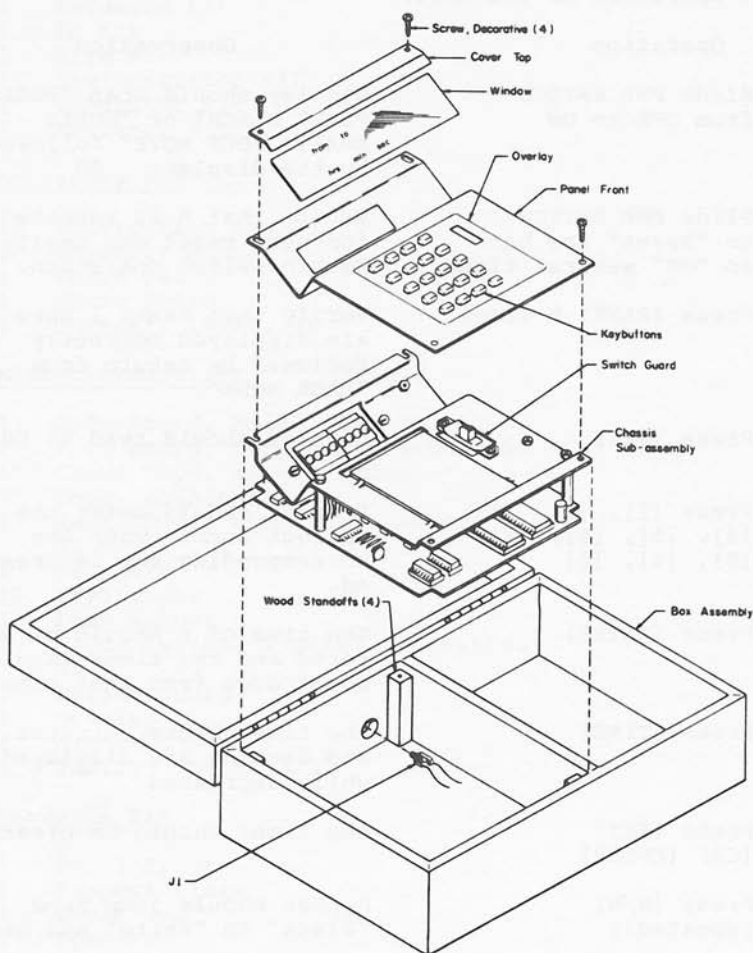

Figure 8
- [✓] Install the switch guard over the black button on slide switch mounted on the chassis sub-assembly. Reference Figure 8. This is used for decorative purposes.
- [ ] Install the power jack J1 in the recessed hole in the rear of the walnut box. Refer to Figure 8. Fasten with the washer and nut supplied. Tighten the nut with pliers while holding the jack by hand.
- [ ] Install the window as indicated by Figure 8.
- [ ] Install the four(4) decorative screws into the wood standoffs. Be careful not to chip the paint on the screw heads.